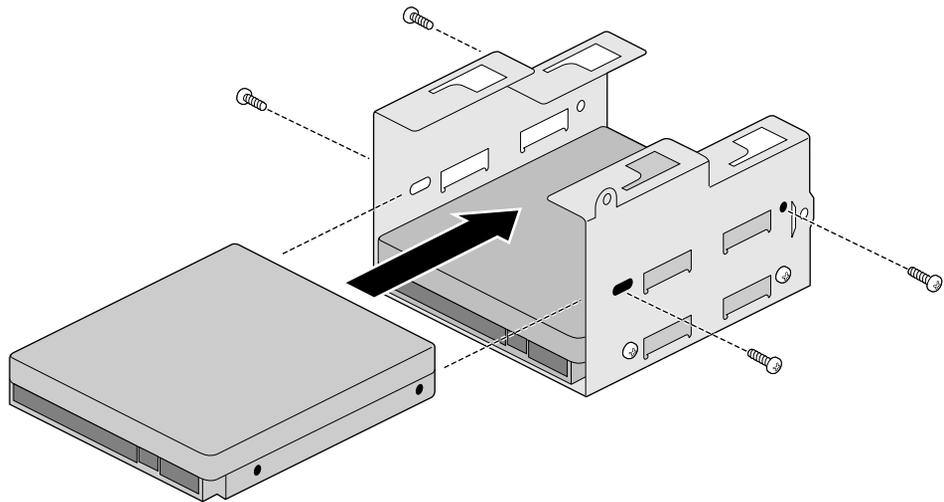

Figure 4-12 Attaching an Internal Hard Drive to the Drive Bracket
10. Insert and tighten the four screws, as shown in Figure 4-12.